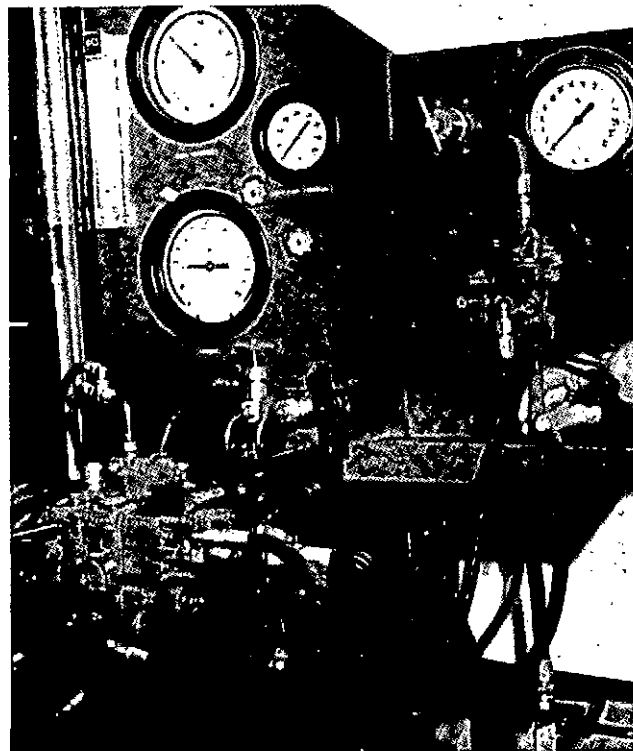

Fig. 16-5 (F5287). Adjusting aneroid fuel screw.
7. Set the air regulator to "0" inches of mercury. Adjust the screw in bottom of the aneroid housing. Set it to the specification under "Fuel Manifold Pressure" for the pump and aneroid code shown in Table 16-1, Fig. 16-5.